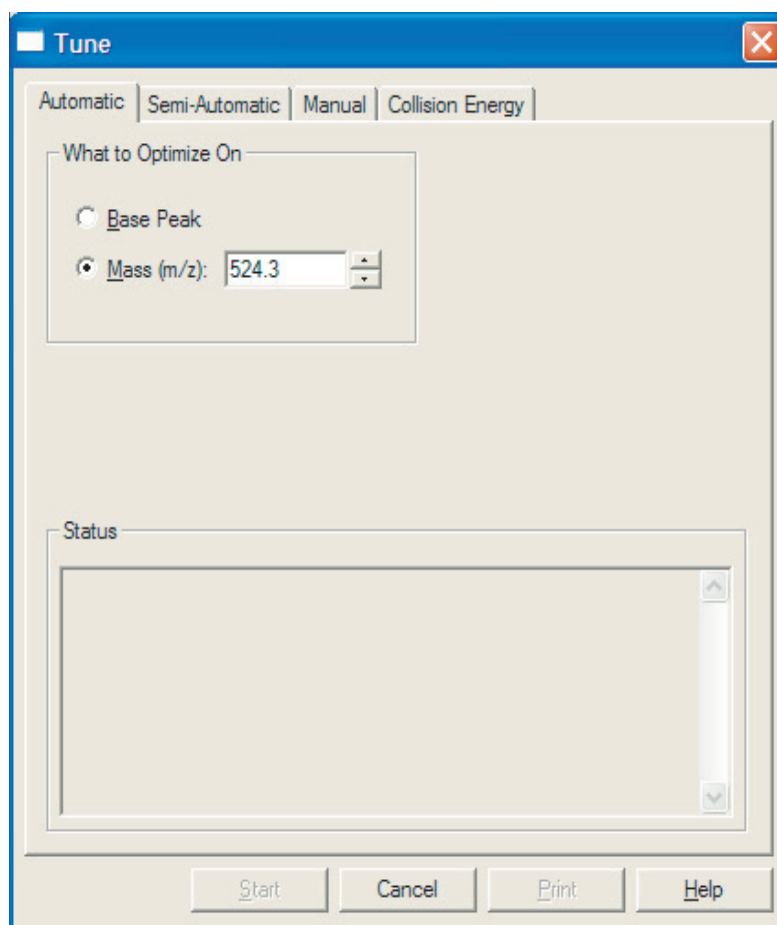

Figure 69. Tune window showing the MS detector Tune on m/z 524.3u
2. If necessary, click the **Automatic** tab to display the Automatic tuning page. See Figure 69.